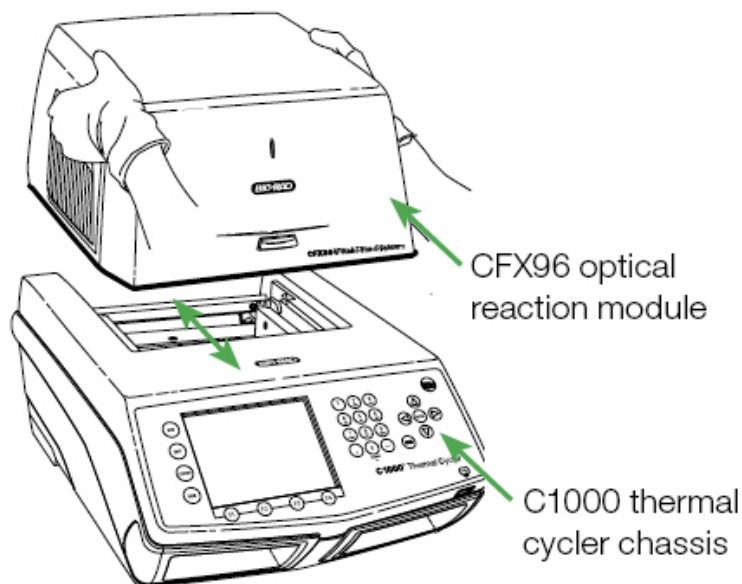

Figure 4. Lifting the optical reaction module into the C1000 chassis.
2. Lift the optical reaction module using the handle indents above the side air vents (Figure 4).